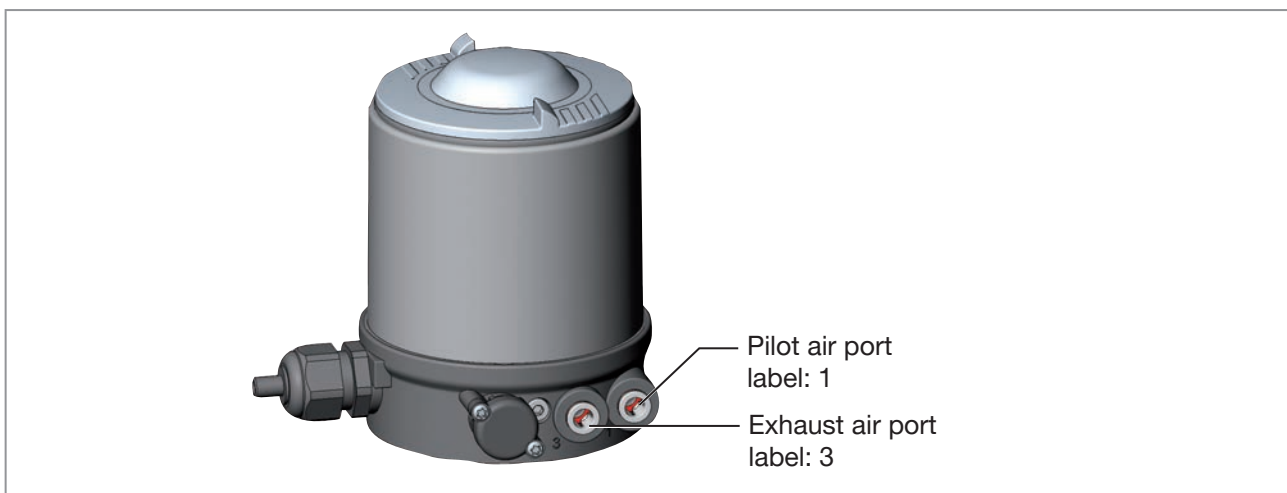

Figure 20: Pneumatic connection
- Attach the exhaust airline or a silencer to the exhaust air port (3) (see “Figure 20”).